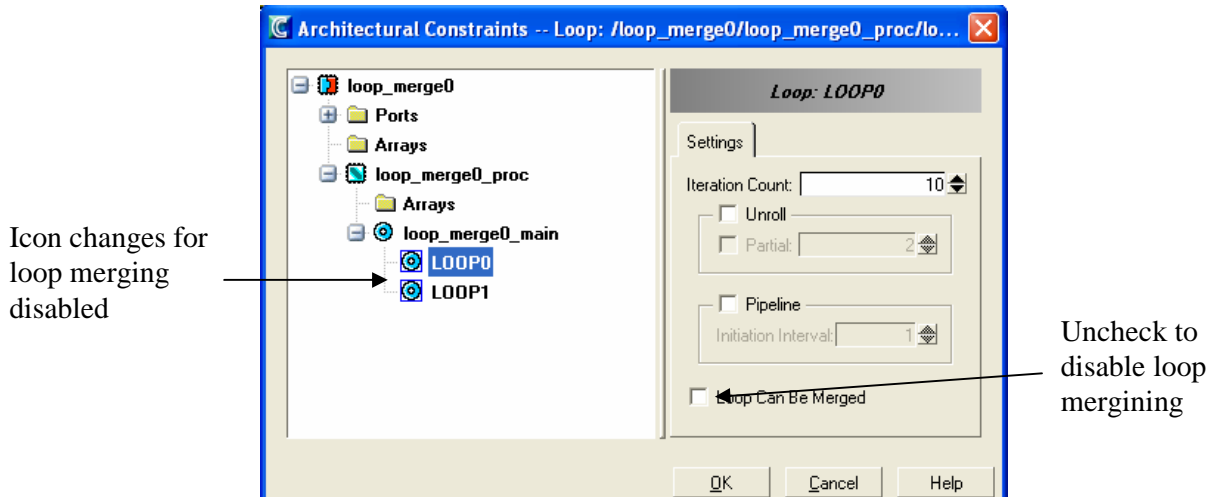

Figure 11 Disabling Loop Merging
- ✓ Disable loop merging on both loops in the design. Notice that the icon changes for loops that can't be merged (Figure 11).